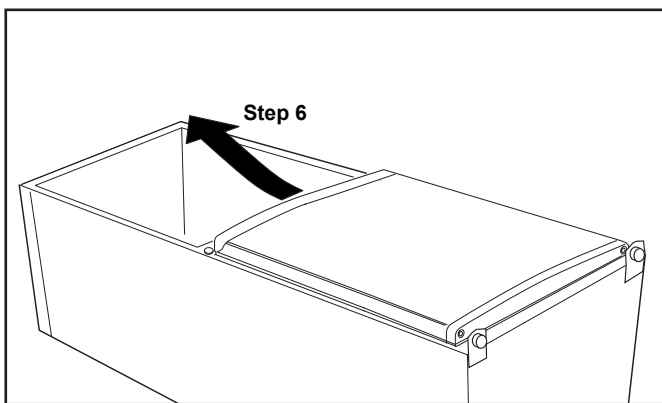

Fig.5
6. Slide bottom door upwards and away from lower hinge pin and place to one side. *Fig. 5*